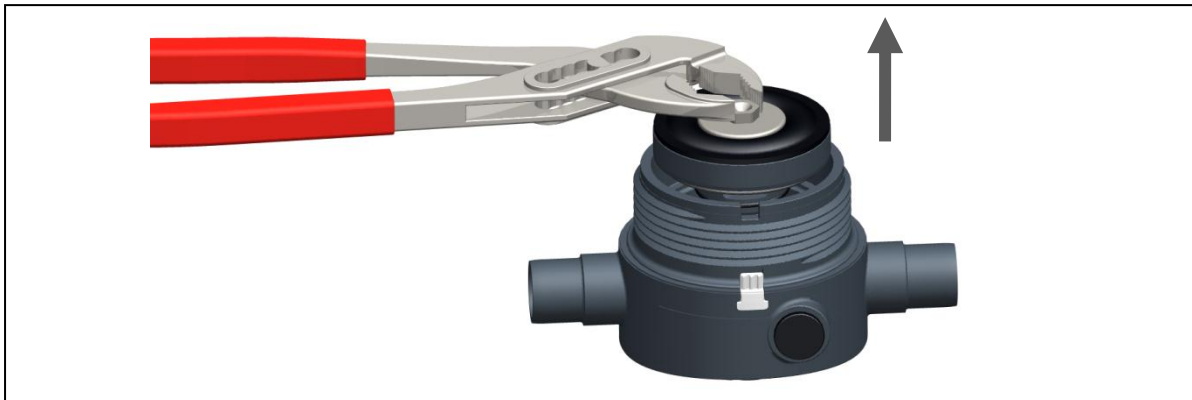

Fig. 9
- Remove cartridge from body with suited tool (e.g. pliers), see Fig. 9